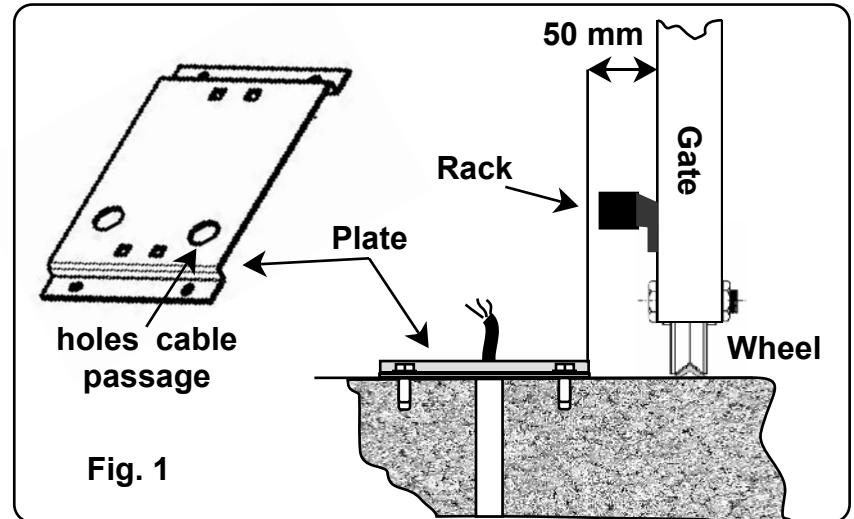
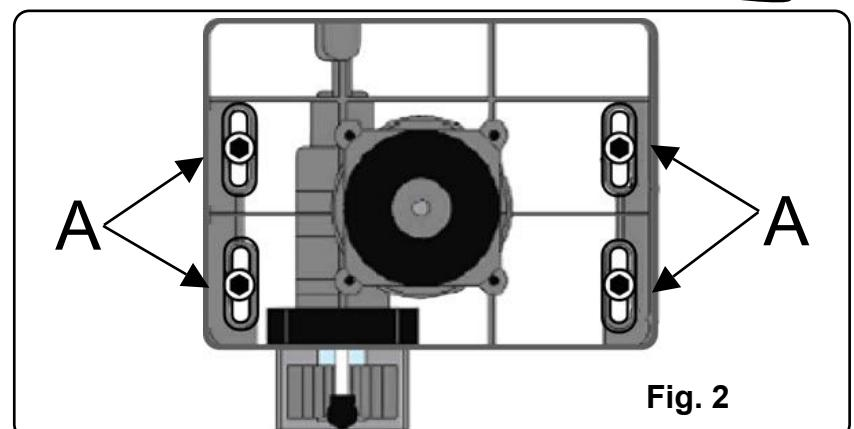
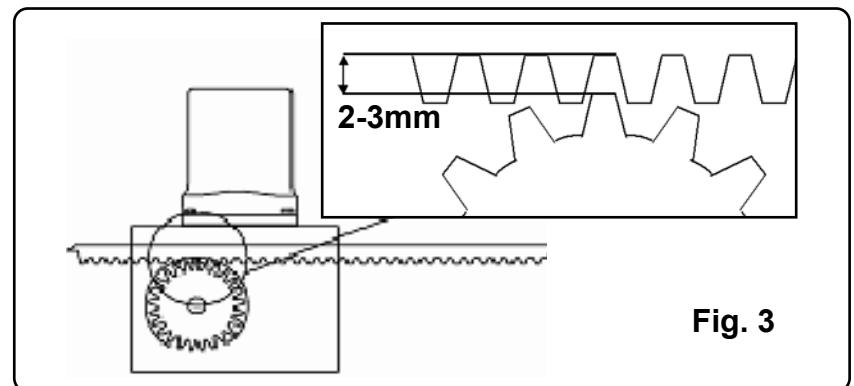

Fig. 1
Fig. 2
Fig. 3
- Also check that the runner on the ground (**Fig. 1**) is not deformed, is perfectly level and that the mechanical stop is present on opening (**Fig. 2**) in order to prevent the gate from going beyond the upper runners (**Fig. 3**)
- Check the upper runner (**see Fig. 3**) is firm and the gate slides freely.
Position the plate provided (**Fig. 1**) 50 mm from the edge of the gate and perfectly square at an angle of 90°.
Position the operator and fasten it with the bolts provided. **A** (**Fig. 2**).
Fasten the rack to the gate firmly, leaving a distance of between 2 and 3 mm from the motor pinion (**Fig. 3**).